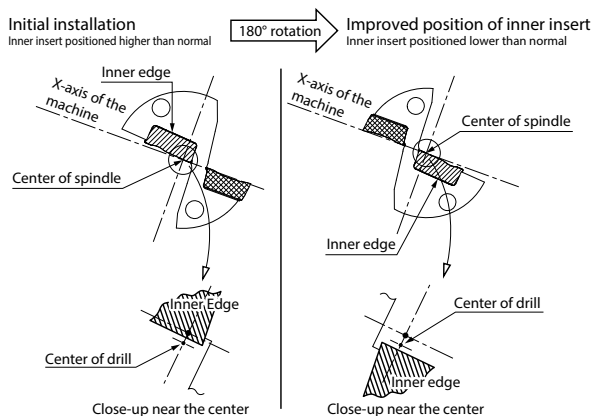
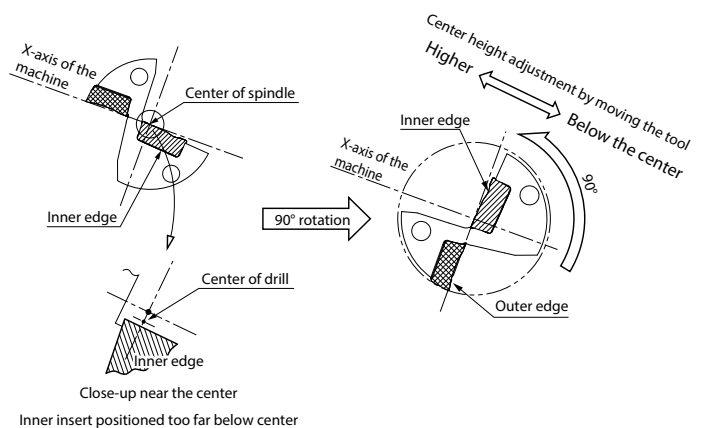

Fig. 8
Fig. 9
A. Install the drill rotated by 180° Most problems will be solved by this method (Fig. 8) B. If the core diameter becomes too large after the above adjustment, install the drill by rotating 90° counter-clockwise as shown in Fig. 9 (outer edge is positioned lower) and adjust the center height by moving the tool in the X-axis direction. (However, this will make it impossible to adjust the cutting diameter) Caution: When installing the drill in the opposite direction (outer insert is positioned above), the cutting diameter will become smaller, which may cause the drill body to interfere with the drilled hole. The best solution is to readjust the center position of the turret itself.